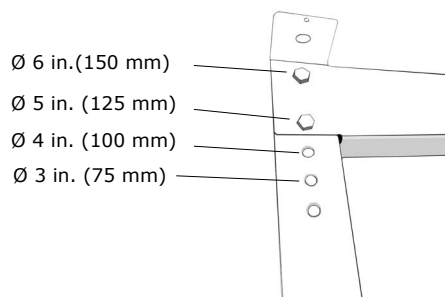

Fig. 4.1b Console holes
- Mount hose to the socket inside the drum using clamp (E).
- Bend hose into a natural soft curve and fasten it using clamp (B).
- Re-mount the drum lid (A).
- Mount the edge protection (C) at the opening of the drum where the hose protrudes.
- Mount hose stop-ring (D) with clamp so that the hose stops at a convenient height when it is reeled in.
- The console holes are pre-set for the correct diameter hose, as shown in *fig. 4.1b*.